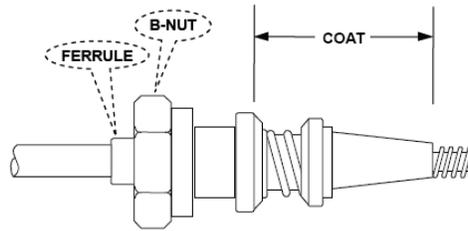

Figure 71-44 Coating Insulating Sleeve: MS 122 DF Spray on Ignition Lead Wire
4. To prevent the ignition lead wire sleeves from sticking and to minimize twisting of the ferrule, coat the insulating sleeves with MS 122 DF Spray (Figure 71-44).